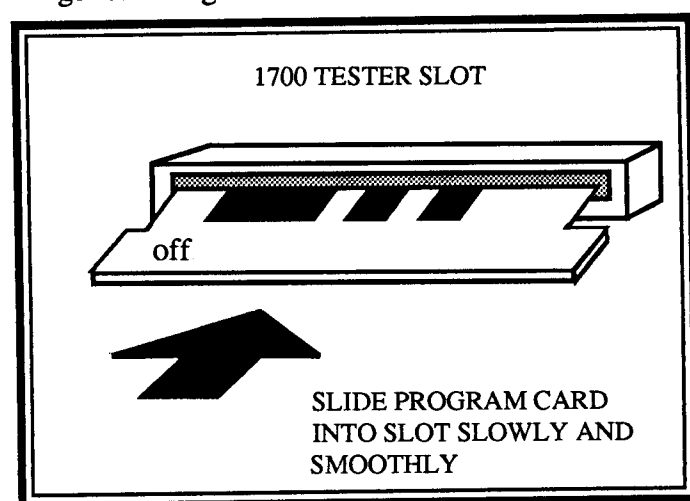

Fig. 13. Slowly and smoothly insert card into tester slot. Make sure correct data on card is facing up.
10. To perform the **ENGINE OFF TEST**, turn the printer on and insert the engine off card. The off label on the card must face up, **Fig.13**. The LED will display "FORD." Follow the instructions printed out by the 1700. **Note:** if the key is ON before inserting the card, you may not trigger self-diagnosis.